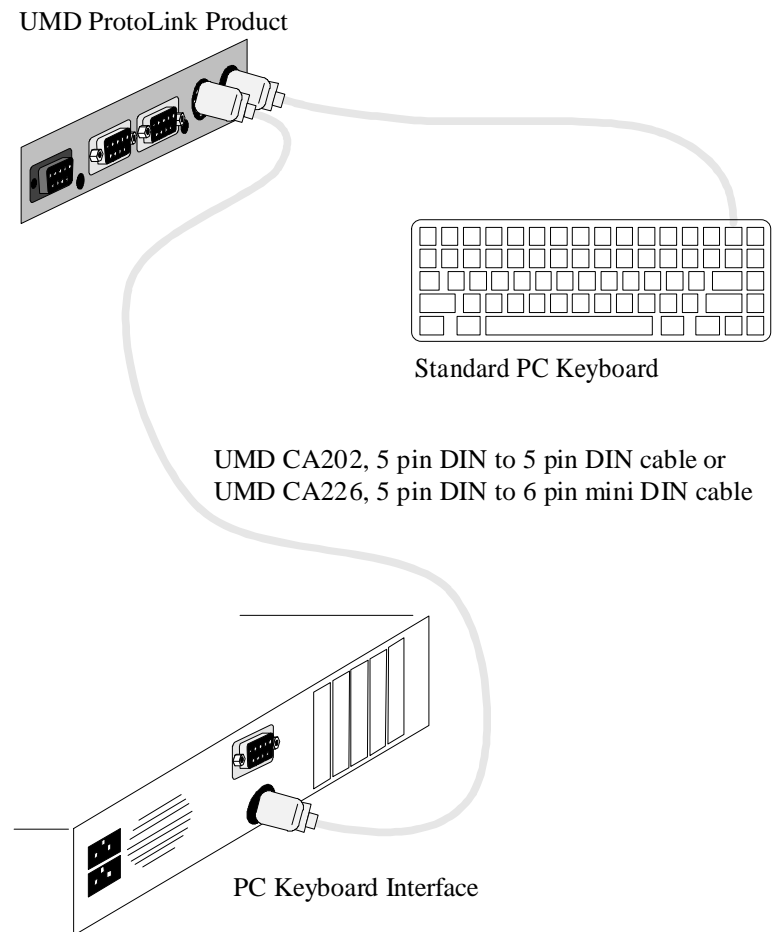

Figure 3
- 3) Referring to figure 3, connect one end of the UMD CA202 or CA226 cable to the PC's keyboard interface connector.